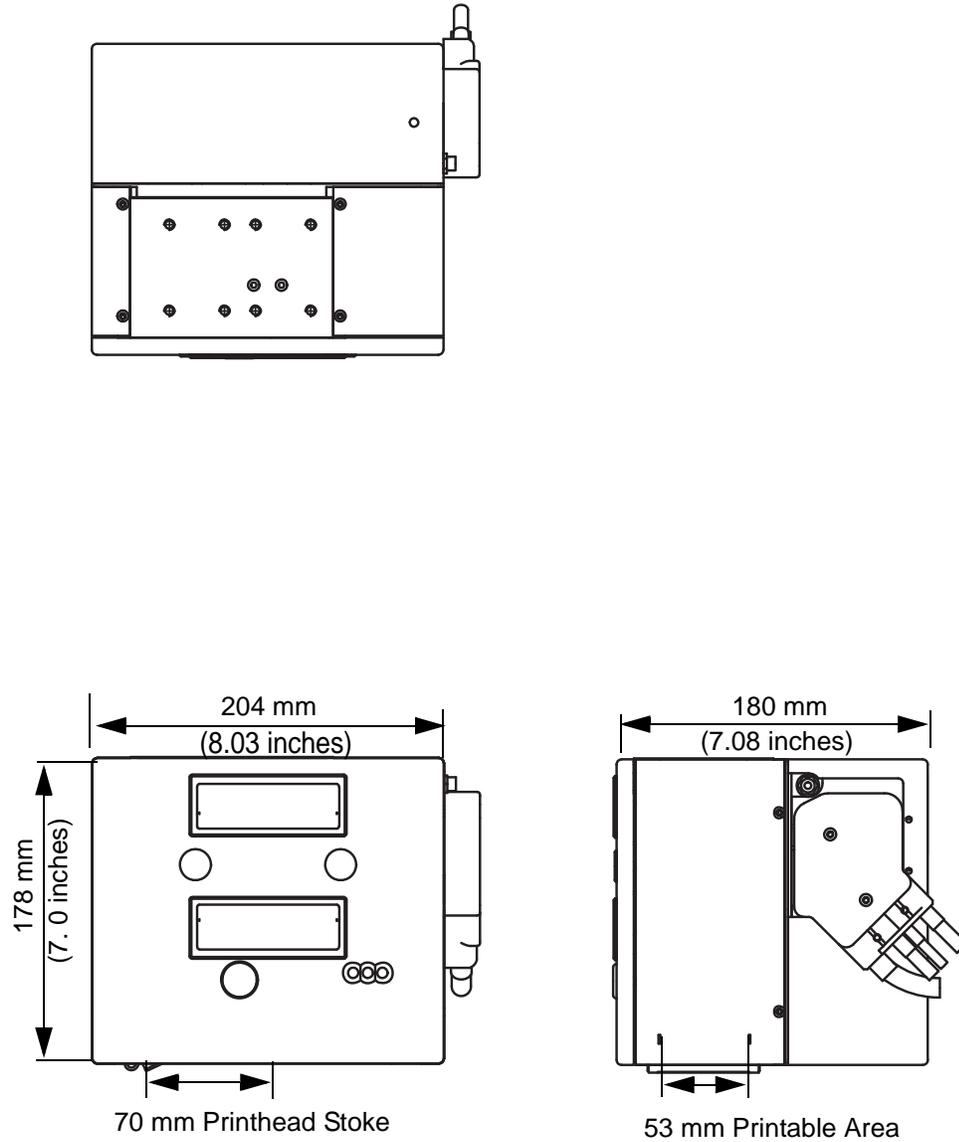

Figure 7-1: Videojet DataFlex 6420 53 mm RH Printer Dimensions
Figure 7-1 shows the dimensions of the 53 mm (RH) printer.